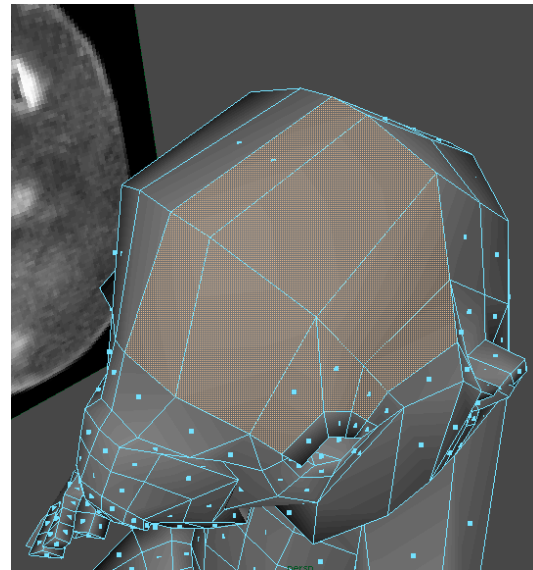

Figure 58: The faces at the top of the head are selected.
7. Select the faces at the top of the head as shown in figure 58. Only select the faces on one half of the head.